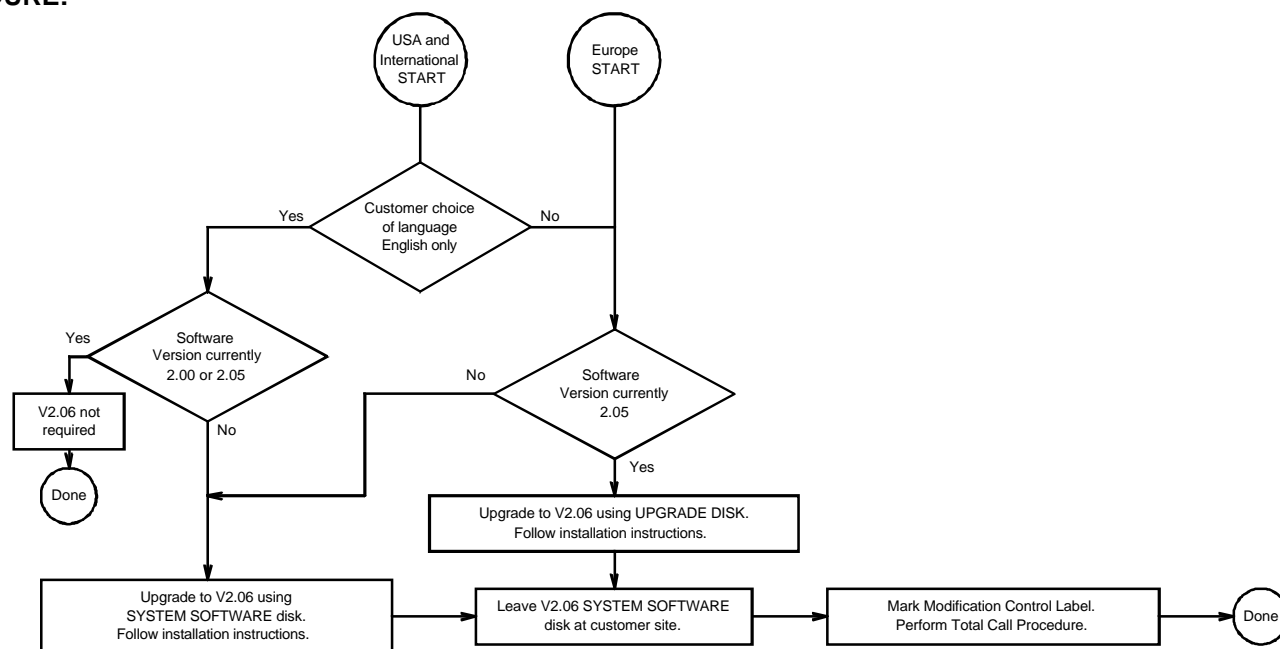

Figure 1
Follow the flow diagram (Figure 1) to determine if an upgrade is required and if so, which upgrade is required.
1. Use the flow chart [Figure 1] on the previous page to determine which upgrade (if any) is required. (If the flowchart indicates that this TSB is not required, no further actions are necessary.)